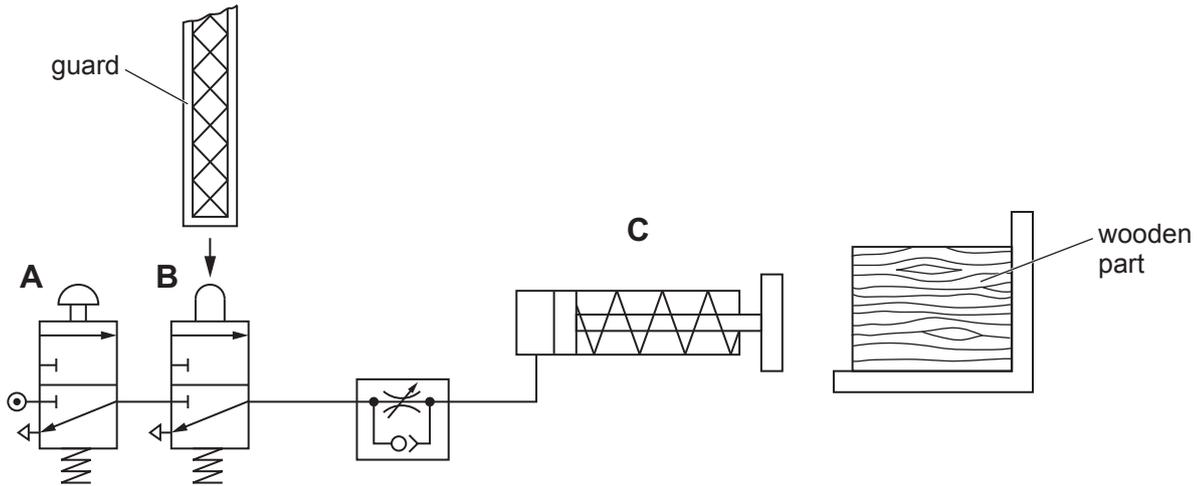

Fig. 7
6 Fig. 7 shows a circuit for clamping wood before drilling.
- (i) Three pneumatic components in Fig. 7 are lettered. Complete Table 2 by inserting the correct letter A, B or C to represent each component listed.